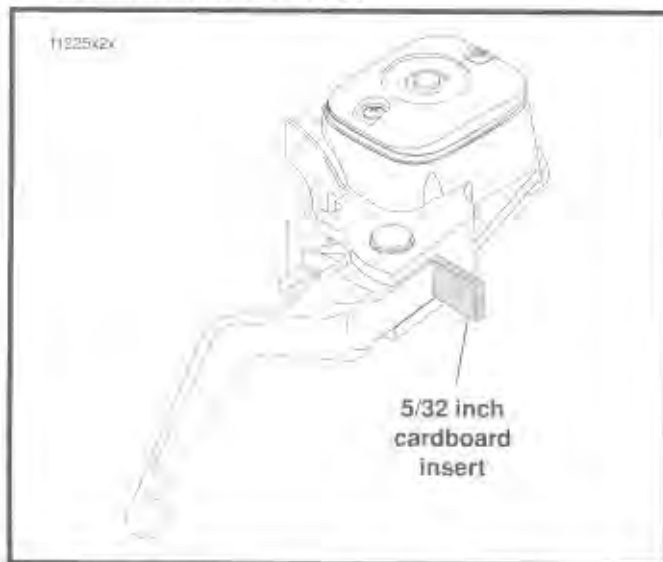

Figure 7-69. Install Cardboard Insert
1. See Figure 7-69. Place the cardboard insert between the brake lever and lever bracket.